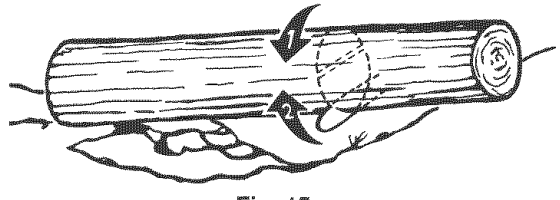

Fig. 15
3. Log supported on both ends: First, overbuck 1/3 diameter of log to avoid splintering. Second, underbuck to meet first cut and avoid pinching (Fig. 15).